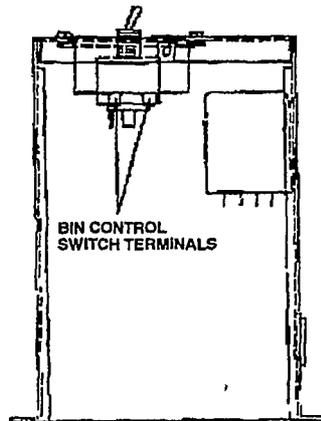

FIGURE 14. BIN CONTROL SWITCH
To test switch, disconnect power to unit and remove one wire from switch. Connect both leads of your ohmmeter to the Bin Control Switch terminals. With control bulb at room temperature ohmmeter should read "Closed Circuit". Refer to Figure 14
5. Main service switch located on top of the control box. See Figure 14
6. Bin Control. See Figure 14